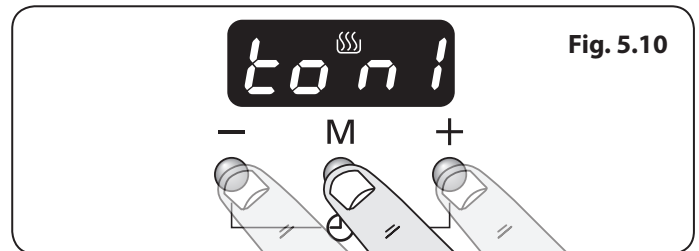

Fig. 5.10
- Press the the [+] and [-] buttons simultaneously, then the mode [M] button. The display will show 'ton1,2 or 3' (**Fig. 5.10**).